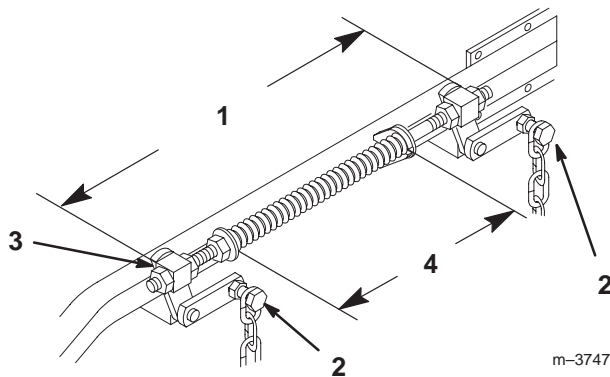

Figure 61
6. Loosen the 4 top chain bolts in the slots. Check the length of the rod/swivel assemblies. The distance from the outside of the rear swivel to the outside of the front swivel should be 19-17/32 inches (496 mm) (Fig. 61). Make sure that all four swivels move freely in the holes.
14. Adjust the compression springs by turning the front spring nuts so that the distance between the two large washers is 11 inches (279 mm) (Fig. 61). Clockwise will shorten the spring; counterclockwise will lengthen the spring.